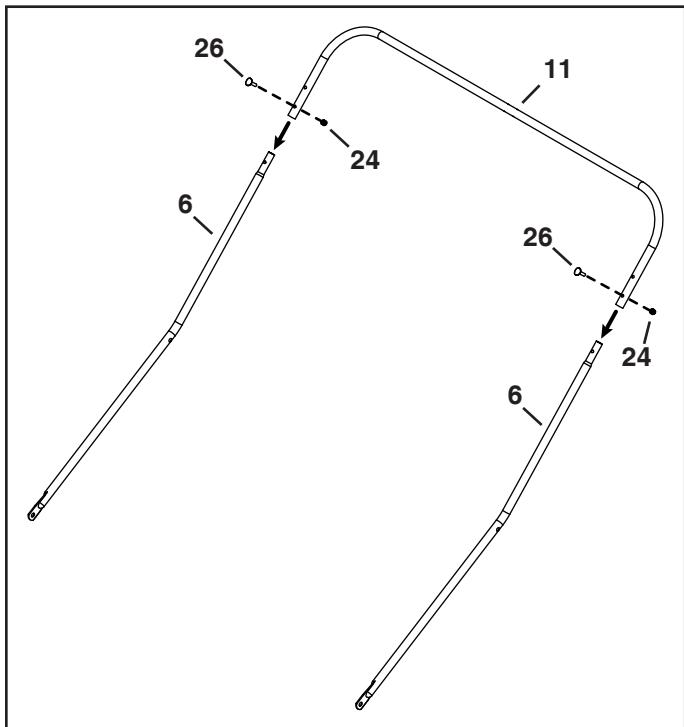

FIGURE 10
14. Slide a rear hopper tube (11) onto the two upper hopper tubes (6). See figure 10.
15. Secure the upper hopper tubes (6) to the rear hopper tube (11) using two 1/4" x 1" curved head bolts (26) and 1/4" nylock nuts (24). See figure 10.
**NOTE:** Hopper bag (3) not shown for clarity.